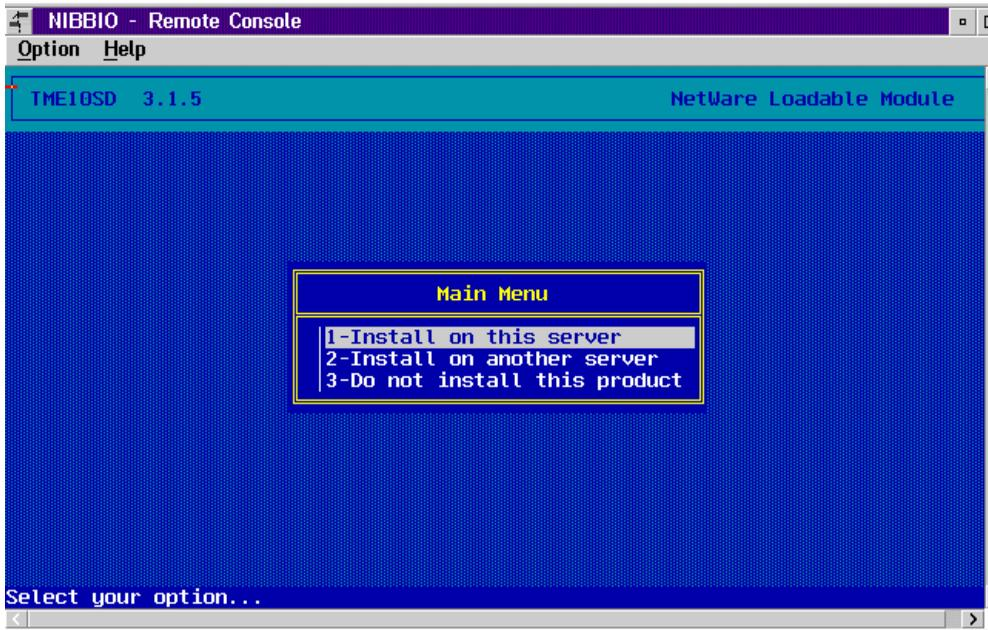

Figure 8. Client installation main menu
- 7** On the Main menu, shown in Figure 8 on page 54, specify whether you are installing on this NetWare server or another NetWare server.